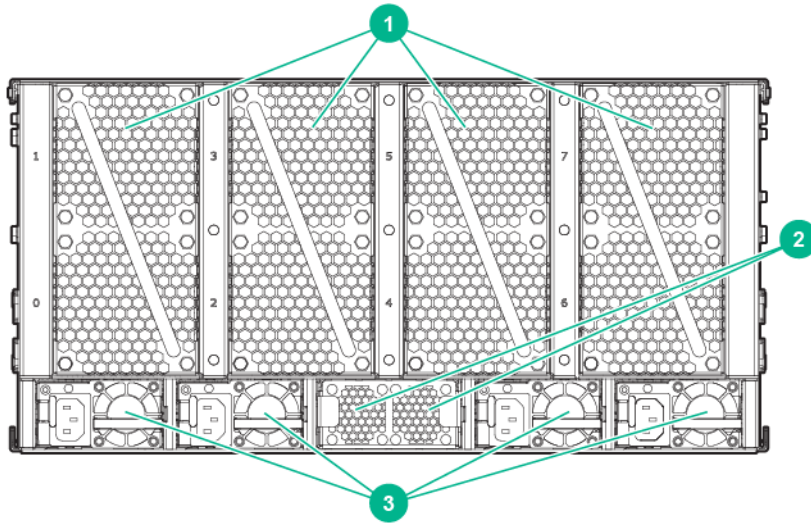

Figure 8: MC990 X server chassis power supply cable location
2. For each individual MC990 X server chassis that you want to power up, make sure that the power cables are plugged into all the chassis power supplies correctly, see the example in **Figure 8: MC990 X server chassis power supply cable location** on page 17. Setting the circuit breakers on the PDUs to the (On) position will apply power to the individual MC990 X server chassis and will start the RMC if it is plugged into the same PDU. Turn (Off) the PDU breaker switch on the PDU(s) that supply power to the MC990 X server chassis or RMC power supplies if you want to remove all power from a particular unit.